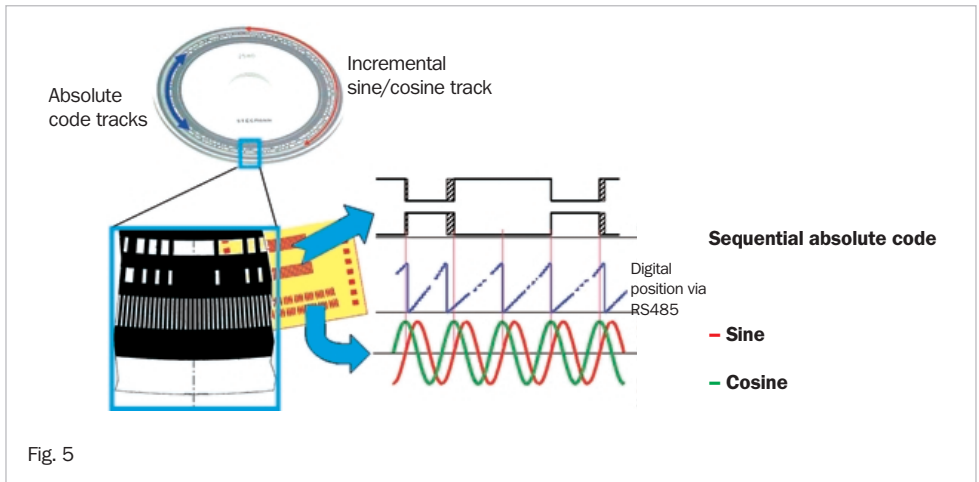

Fig. 5
- the absolute position is determined via separate code tracks and, therefore, differs slightly from the position interpolated from the analogue signals (see figure 5). Therefore, this phase position can change by up to  $\pm 4/32$  of a period, within a turn.